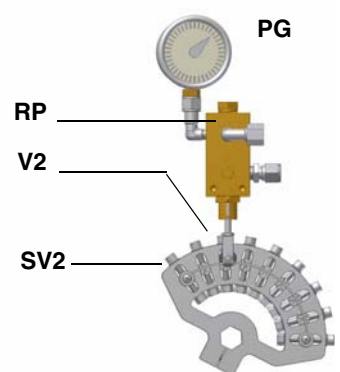

Fig. 28
- 13 move cam V towards the minimum to move the actuator towards the low flame until the two bearings find the adjusting screw that refers to a lower position: screw **V2** to increase the rate, unscrew to decrease, in order to get the pressure as showed on diagram in Fig. 28, according to the requested rate.